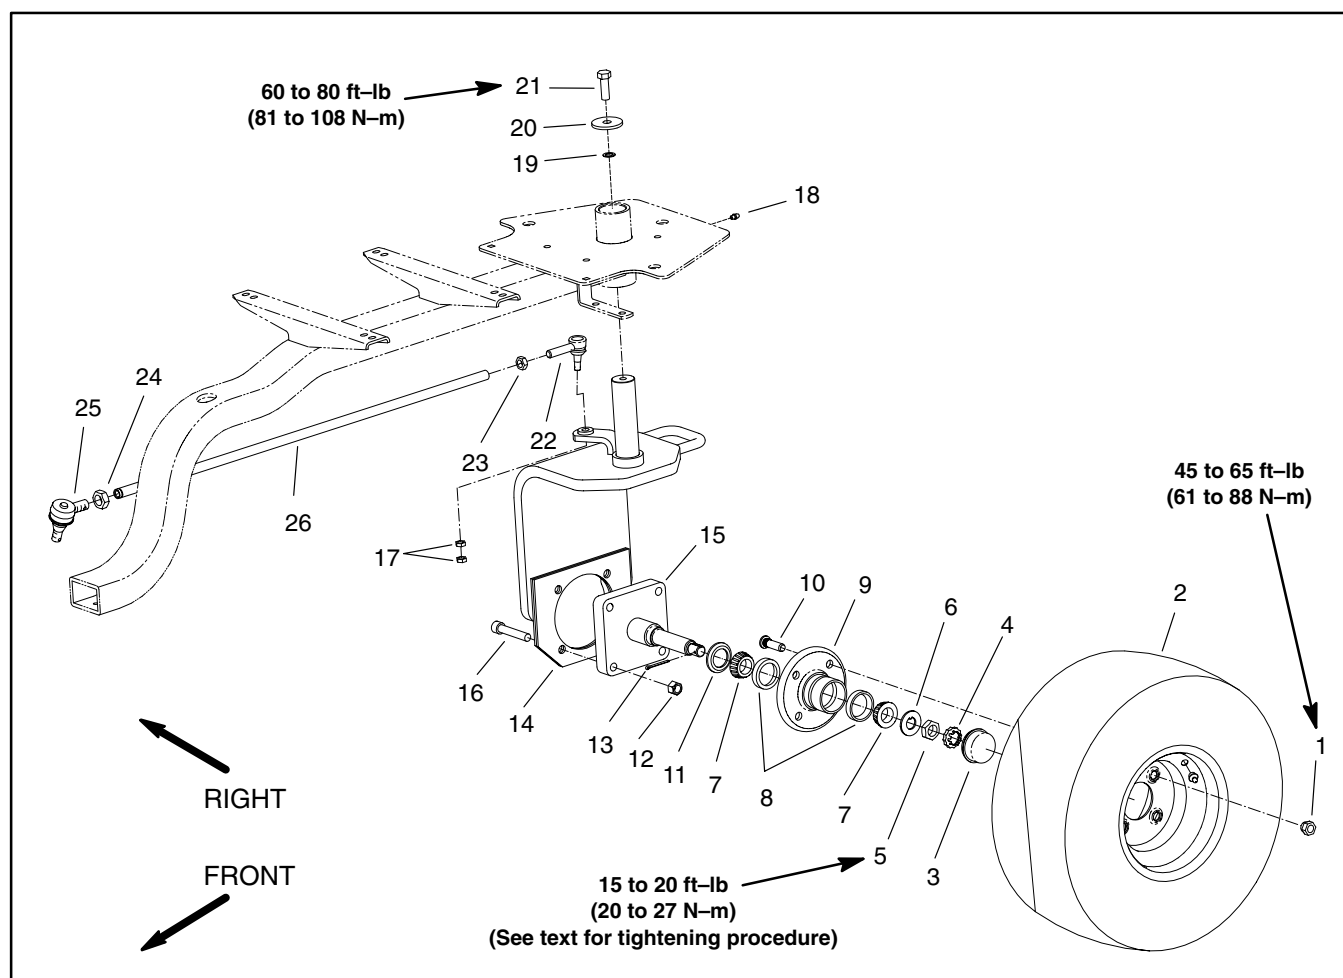

Figure 1
**Removal (Fig. 1)**
**Installation (Fig. 1)**